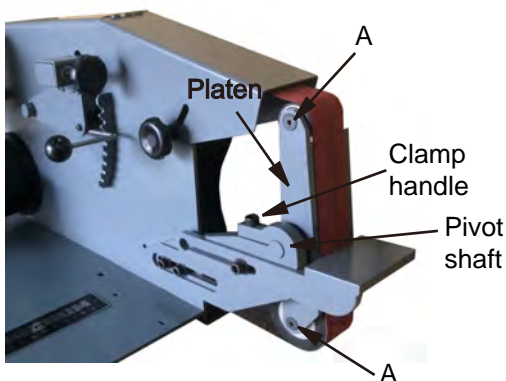

Figure 7-1: installing platen assembly
- Loosen clamp handle on head casting. See Figure 7-1.
- Install pivot shaft of platen (or shaft of wheel) all the way into head casting, as shown in Figure 7-1.
Turn one or both screws (A, Figure 7-1) to adjust.